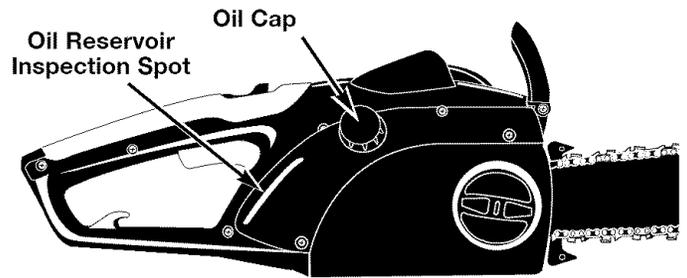

Fig. 3
1. Fill the oil reservoir with correct chain and bar oil (Fig. 3). Use a funnel, wipe up any spills and make sure no dirt gets into the tank.